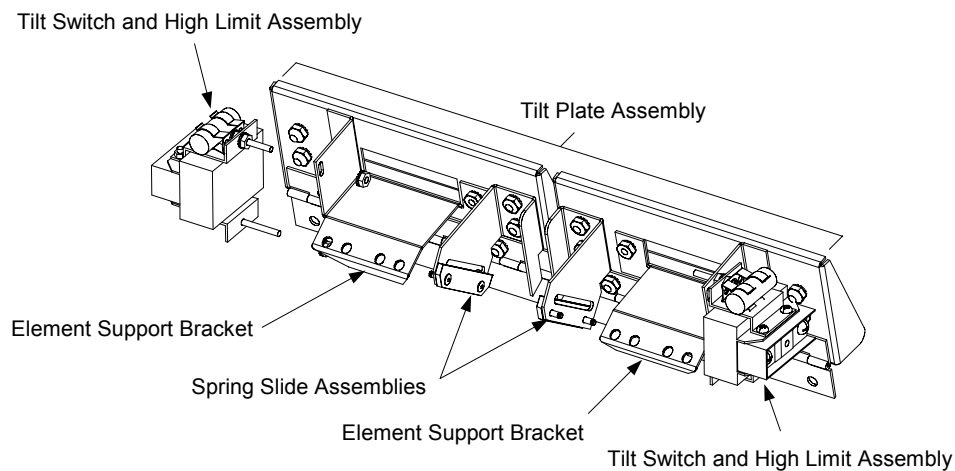

Fig 15
1. Dismount the tilt switch/high limit assembly from the element support bracket (see Fig. 15).